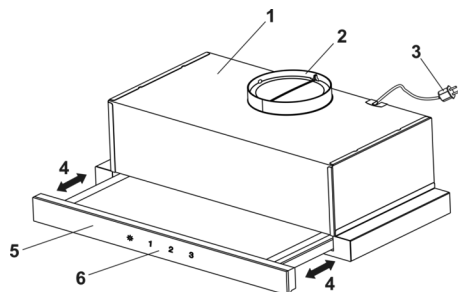

Fig. 3
**5.4** The cooker hood consists of the following parts (Fig. 3 / 3.1):